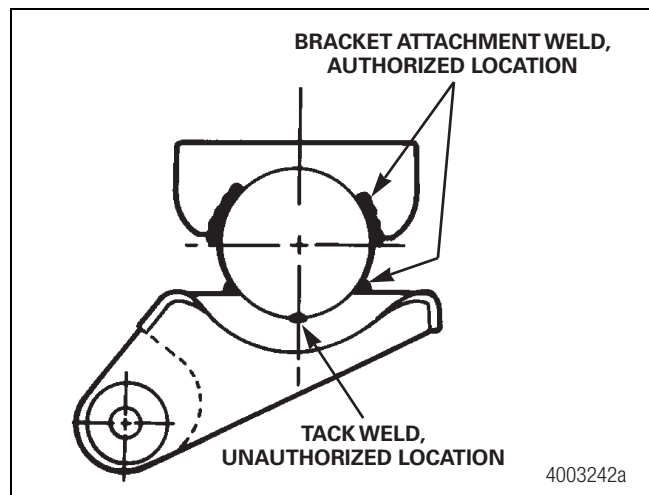

Figure 7.15
- Weld location requirements in this section apply to all welds. In some instances, axles have been found with bracket attachment welds in authorized locations, but with tack welds in unauthorized locations. Neither tack welds nor brackets attachment welds are allowed in unauthorized locations. This can cause a material change that can reduce axle fatigue life. Figure 7.15.